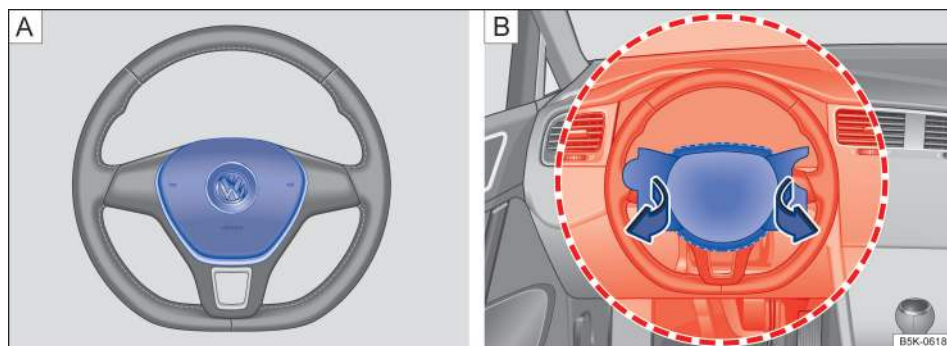
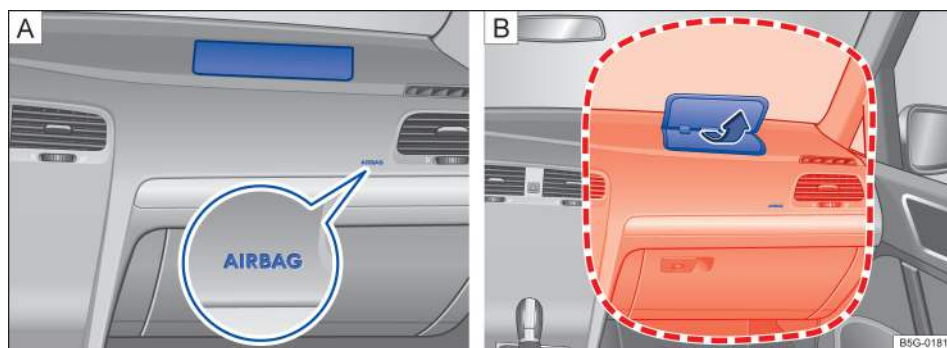

Fig. 34 Location and deployment zone of the driver front airbag.
Fig. 35 Location and deployment zone of the front passenger front airbag.
wheel hub → fig. 34 **A** and the airbag for the front passenger is in the instrument panel → fig. 35 **A**. The general location of the airbags is marked "AIRBAG."
The areas marked in red (dotted lines) → fig. 34 [B] and → fig. 35 [B] indicate the airbag deployment zone. Never place or attach accessories or other objects (such as cup holders, telephone brackets, note pads, navigation systems, large, heavy or bulky objects) on the doors, on the windshield, over or near the area marked in red (dotted lines).
- Never place accessories or other objects (such as cup holders, telephone brackets, notepads, navigation systems, or things that are large, heavy, or bulky) on the doors or attach them to the doors; never place them over or near the area marked "AIRBAG" on the steering wheel, instrument panel, or seat backrests, or between those areas and someone in the vehicle → fig. 34 and → fig. 35. Such objects could cause serious injury in a collision, especially if an airbag inflates.